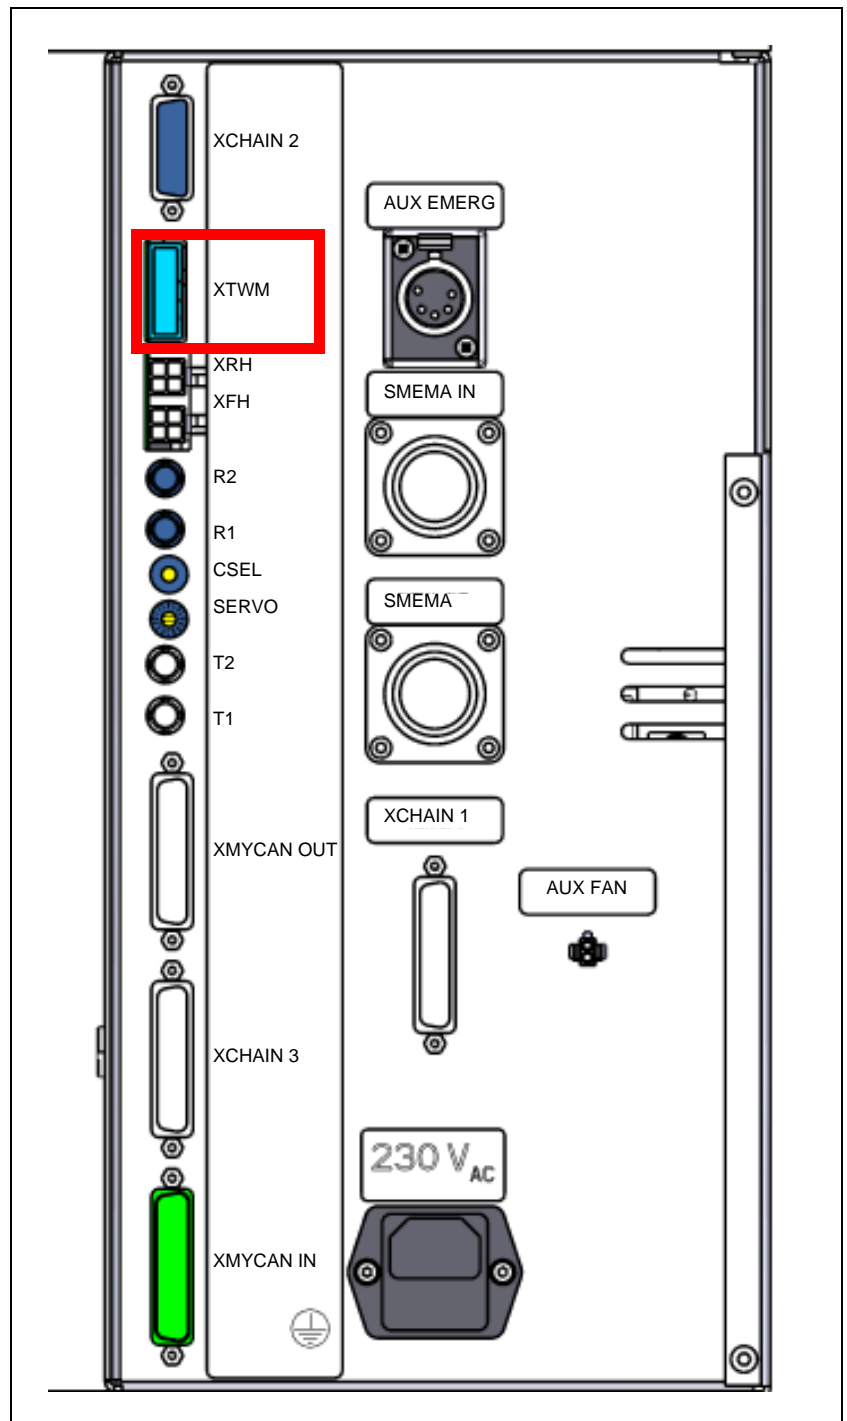

Figure 13-36. YBOX with XTWM connector.
4. Connect the magazine cable to the XTWM (see Figure 13-36) connector located at the back of the YBOX, underneath the Y module.